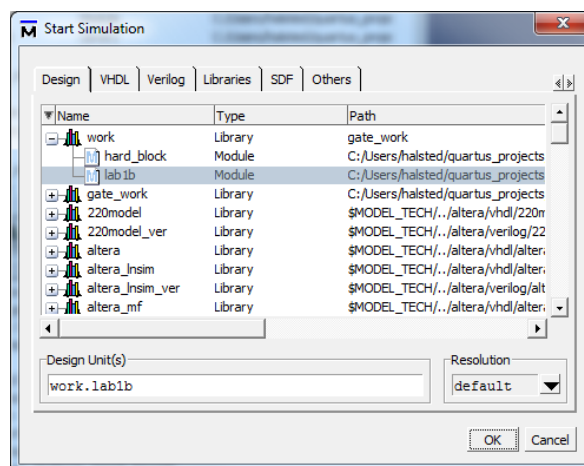

Figure 11. Selecting your Verilog netlist output file to simulate
5. To simulate your design, select **Simulate > Start Simulation...** from the toolbar menu. Click on the **Design** tab and select your design file in the work library. In Figure 11, the Verilog netlist file, lab1, has been selected.